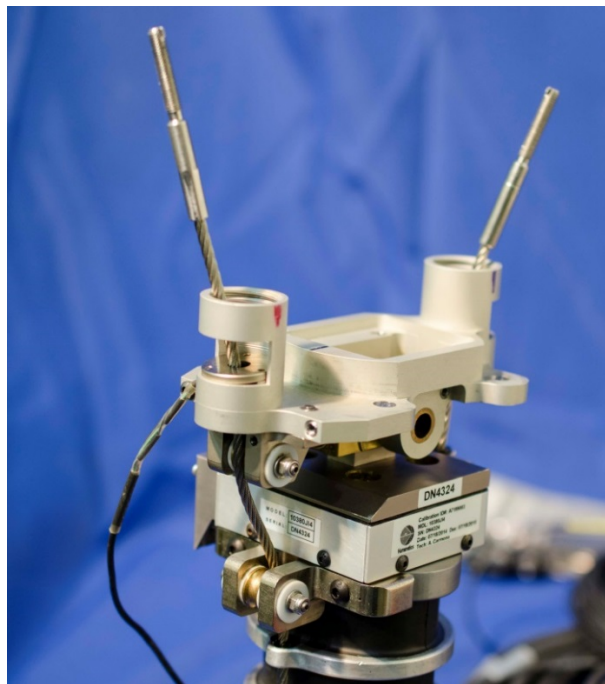

Figure 4-31. Secure neck mounting plate assembly to neck O.C. cam
- 4.2.2.20 Install the neck mounting platform on top of the neck occipital condyle cam (Figure 4-31). Pass the front and rear neck cables up through the Skull Spring Load Cells (SA572-S112).